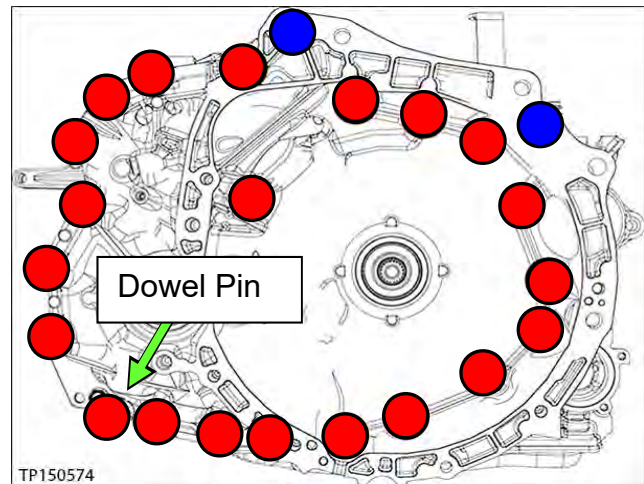

Figure 29
15. Remove all 23 converter housing mounting bolts (see Figure 29).